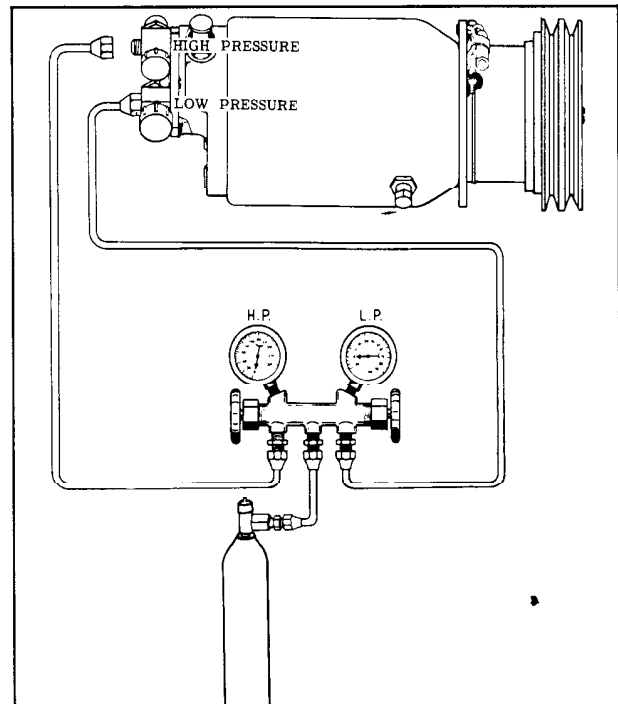

Fig. 14-29 Evacuating the System
1. Have gauge set and refrigerant drum connected as shown in Fig. 14-29.